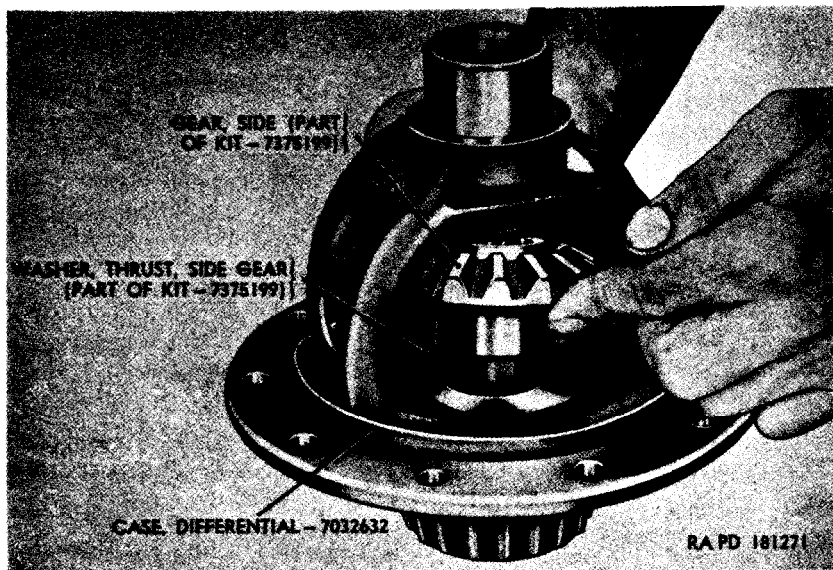
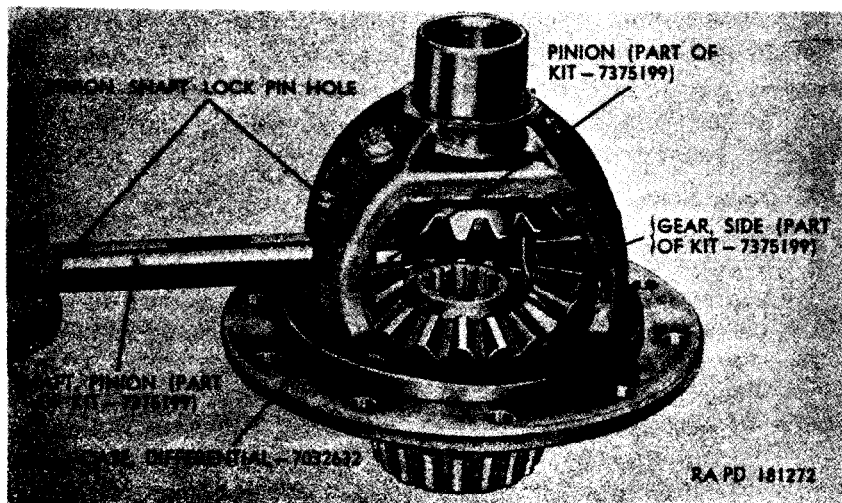

Figure 135. Installing differential side gear.
Figure 136. Inserting differential pinion shaft.
a. Install Side Gears and Pinions (fig. 130). Position new side gear thrust washers (Y-1 and Y-5) in bore of differential case and follow by installing side gear (fig. 135). Place new pinion thrust washers (Y-4 and Y-9) on the two pinions (Y-3 and Y-8). While supporting the upper side gear in differential case, insert the two pinions through openings in differential case until they mesh with the side gears. Rotate pinions until pinion shaft holes in pinions are alined with pinion shaft holes in differential case. Insert pinion shaft (fig. 136), in differential case, making sure that pinion shaft lockpin hole in shaft will aline with corresponding hole in differential case (fig. 136). Insert thrust block (Y-7) through side gear bore in differential case. Push pinion shaft through pinions and thrust block (fig. 137). Aline holes in differential case and pinion shaft and install the lockpin (Y-10).